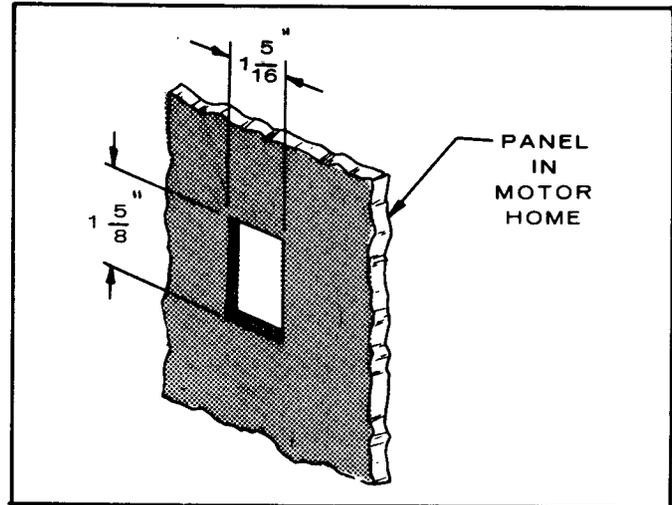
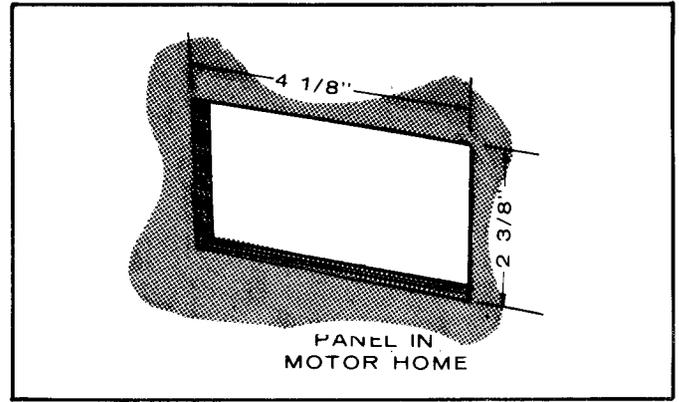

FIGURE 5. MOTOR HOME CUTOUT
FIGURE 7. MOTOR HOME CUTOUT
Onan has two optional remote control stations designed specifically for the "Power Drawer" electric power plant. One includes a start-stop switch and indicator light (Figures 5 and 6). The other one includes a start-stop switch with indicator light, a running time meter, and a battery condition meter (Figures 7 and 8).
1. Cut hole in motor home panel (Figure 5) to accommodate remote switch.
1. To measure wall cutout for the remote control switch, see Figure 7.